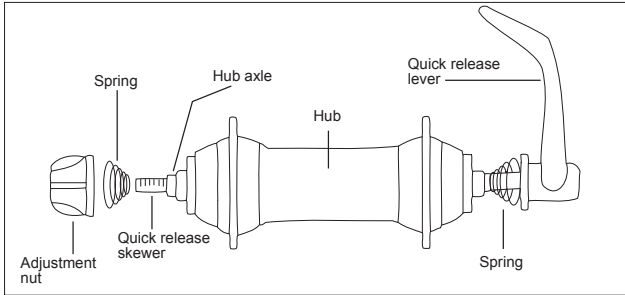
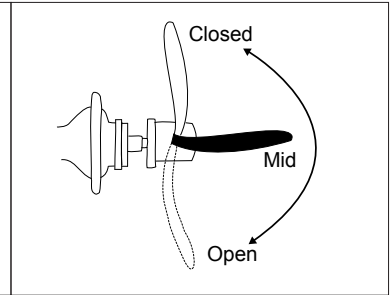

Fig. 53: Traditional quick release; diagram of parts.
Fig. 54: Positions of a quick release.
1. Move the quick release lever to the OPEN position (Fig. 54) and set the wheel so it fully engages the frame dropouts.
2. With the lever in the MID position (Fig. 54), tighten the adjusting nut (Fig. 53) until it is slightly tight.
3. Move the quick release into the closed position (Fig. 54) with the palm of your hand.
1. Open quick release lever (Fig. 54).